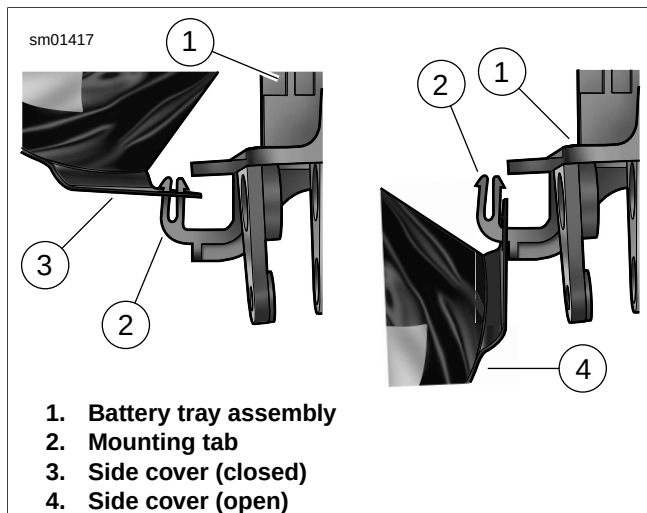
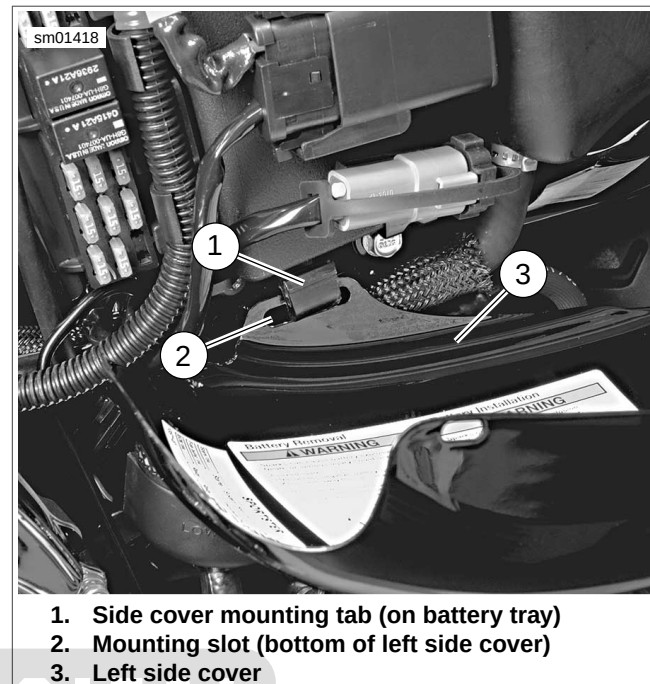

Figure 2-161. Left Side Cover Bottom Mount: All Models
Figure 2-162. Left Side Cover in Open Position: All Models (XL Model Shown)
3. See Figure 2-161. While rotating top of cover out away from motorcycle, slide cover down slightly so mounting slot on cover slides down mounting tab (2) on battery tray assembly (1). See Figure 2-162. Side cover (3) will now rest on top of rear brake master cylinder reservoir and left passenger footrest (if equipped) with slot (2) hanging off bottom of mounting tab (1).
1. See Figure 2-162. Grasp top corners of side cover (3). While rotating top of cover up toward motorcycle, gently pull cover up so that mounting slot (2) slides up mounting tab (1).
1. See Figure 2-162. Position side cover over battery tray assembly with slot in bottom of cover resting on mounting tab on battery tray.